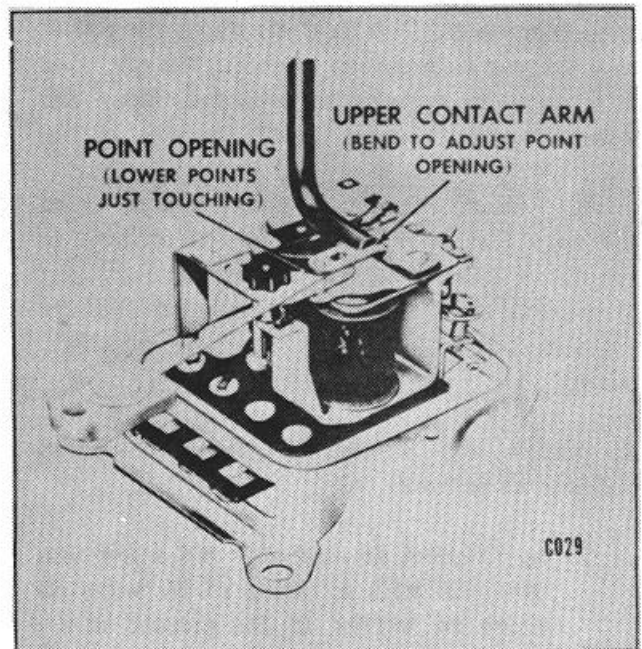

Figure 20.
1. Point Opening: With the lower contacts touching, measure the point opening between the upper contacts. Adjust by bending the upper contact arm, being careful not to bend the hinge. (Fig. 20)